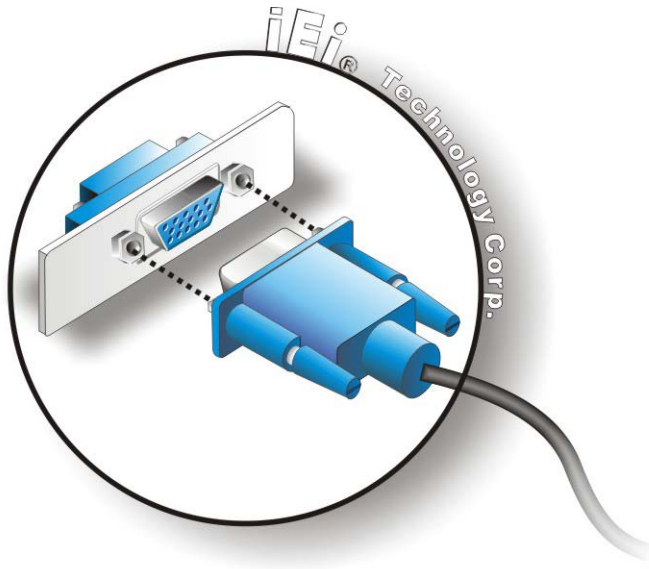

Figure 4-17: VGA Connector
- Step 3: Insert the VGA connector** Once the connectors are properly aligned with the insert the male connector from the VGA screen into the female connector on the IMBA-C604EN. See **Figure 4-17**.